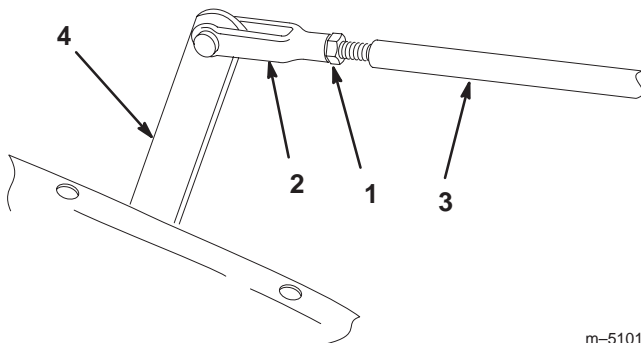

Figure 49
3. Move the adjustment lever by hand to level the mow and lift pedals and adjust the yoke on the control rod until the hole in the yoke lines up with the adjustment lever hole (Fig. 49).